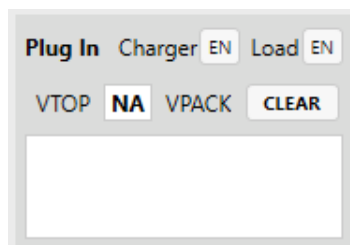

Figure 36: Plug-In Detection Control and Monitor
4. Configure the plug-in detection control and monitoring parameters (see Figure 36).